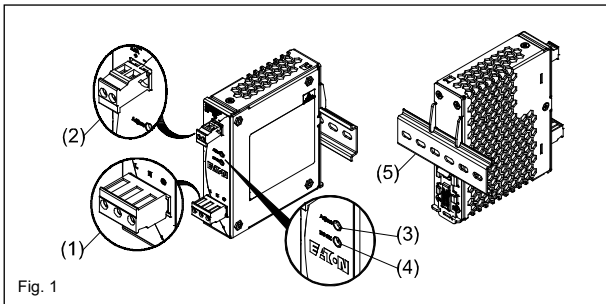
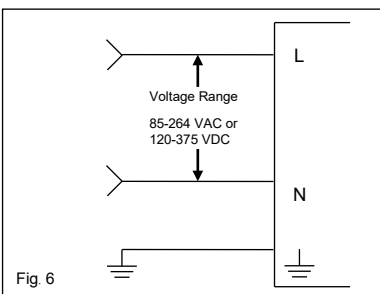

Fig. 1
Fig. 6
2. Device description (Fig. 1)
5.1. Input connection (Fig. 1 (1), Fig. 6)
For AC input connections, use L, N and PE connections of input terminal connector (see Fig. 1 (1)) to establish the 100-240 VAC connection.
5.2. Output connection (Fig. 1 (2))
Use the "+" and "-" screw connections to establish the 24 VDC connection. The output provides 24 VDC. The output voltage can be adjusted from 24 to 28 VDC on the potentiometer (see Fig. 1 (3)). The green LED DC OK displays correct function of the output (Fig. 1 (4)). The device has a short circuit and overload protection and an overvoltage protection limited to 35 VDC.